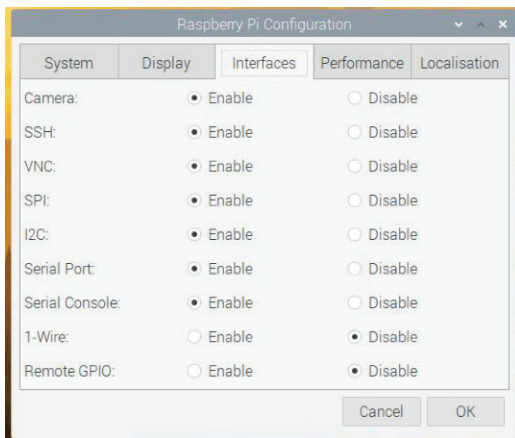

Figure 9-6. *Enabling the camera interface in the Raspberry Pi configuration tool*
4. Power up the Raspberry Pi and open the Configuration tool from the desktop Menu→Preferences. (See Figure 9-6.)